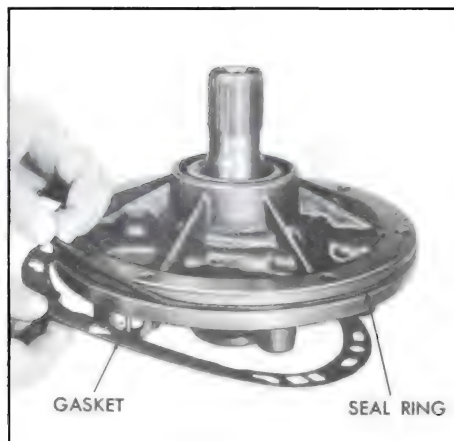

Figure 5-538
4. Remove and discard pump to case seal ring. See Figure 5-538.